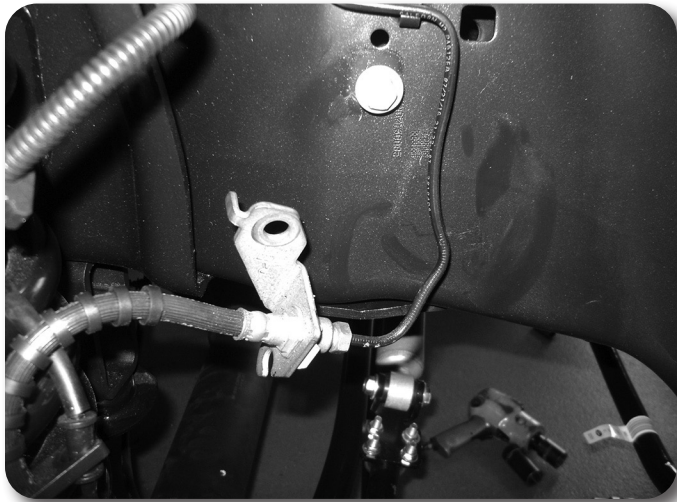

Figure 4A
- Remove the clips holding the front brake lines to the brackets on the frame. Carefully cut the factory bracket so that the brake line can be removed without breaking loose the fittings. Remove the factory brackets from the vehicle. Do not damage the brakeline! Figure 4A,B